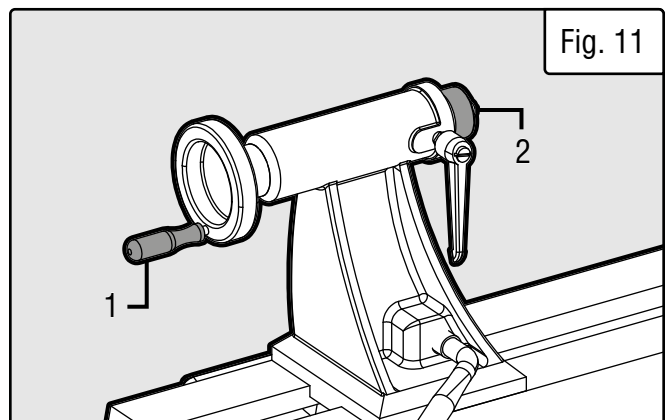

Fig. 11
1. Hold the live center (Fig. 11 - 2) to prevent it from falling. Use a rag to protect your hand from the sharp edges.
2. Rotate the handwheel (Fig. 11 - 1) counterclockwise to retract the quill until the live center is released from the quill.
Indexing is used to create evenly spaced features around the circumference of the workpiece while keeping the spindle locked. There are 24 index positions (Fig. 11 - 1) in the spindle pulley, each 15° apart, to help you rotate the workpiece evenly for accurately spaced features. Place the spindle lock in the locked position (Fig. 6 on page 12) to help maintain the certain index point.